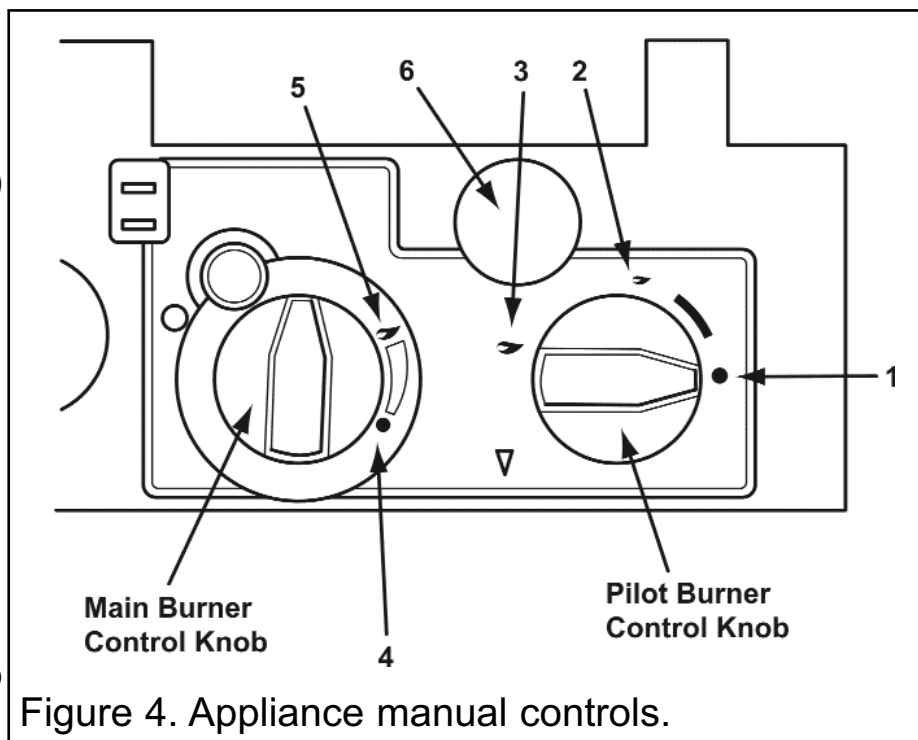
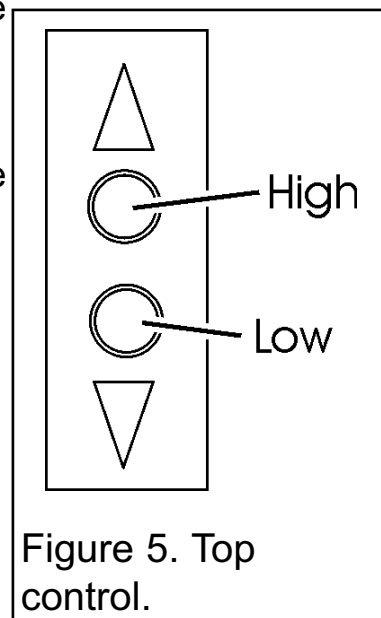

Figure 4. Appliance manual controls.
Figure 5. Top control.
**1.** Ensure that the pilot burner control knob is in the OFF position (Number 1 in figure 4).
**2.** Depress the pilot burner control knob and turn anti-clockwise to the ignition position (Number 2 in figure 4) to activate the piezo ignition system. A ‘click’ will be heard and the pilot should light. Observe if it is alight by looking through the slots to the left hand end of the front ceramic fuel effect. If the pilot does not light immediately, repeat the above procedure, keeping the knob depressed for several seconds in order to purge any air from the system.
1. Once the pilot light is established, light the main burner by turning the pilot burner control knob anti-clockwise to the "main burner on" position (Number 3 in figure 4), and by then turning the main burner control knob to the high position (Number 5 in figure 4).
2. Check the full range of heat settings by turning the main burner control knob slowly between the high position and the low position (Number 4 in figure 4).
Turn the main burner control knob fully clockwise. Alternatively turn the pilot burner control knob clockwise to the ignition position (Number 2 in figure 4).
Rotate the pilot/burner control knob clockwise to position 1, as shown in figure 4.
1. Keep the pilot burner at the "main burner on" position. Check the full range of main burner heat settings using the Top Control. In order to vary the flame effect between High and Low positions, press, and keep depressed, either the High button, or the Low button as appropriate (See figure 5).
3. Turn the fire off by rotating the pilot burner control knob to the OFF position (Number 1 in figure 4).
1. Allow the appliance to warm up, (for at least fifteen minutes) in the fully aerated position, with the aeration control lever pushed in to the locked position (See figure 5, & number 6 in figure 4).